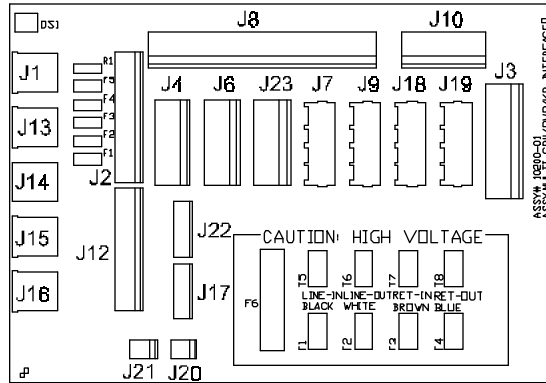

Figure 2-8: Power Interface Board
The power module is secured with six self retaining fasteners. There are two cable assemblies connecting the power module to the power interface board. The main power to the power switch is connected to J4 and J6 on the power interface board, and the four output voltages are connected to J7, J9, J18, and J19 (**Figure 2-8**). To install a power supply module, use the following removal and installation procedures.
5. On the power interface board (**Figure 2-8**), remove the wires connected to **T5** (Blk), **T6** (Wht), **T7** (Brn), and **T8** (Blu). The connections are made with pull off terminals. Grasp the terminals to remove; do not pull on the wires.